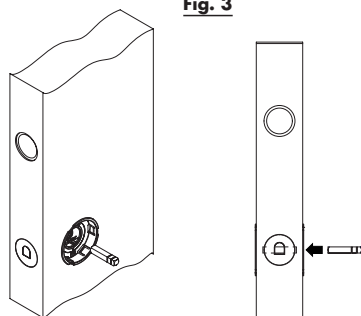

Fig. 3
3. Place the 6mm spindle in his respective housing throught the lock (Fig. 3), choosing between one of the two provided, according to the thickness of the door and possibly adapt the length: